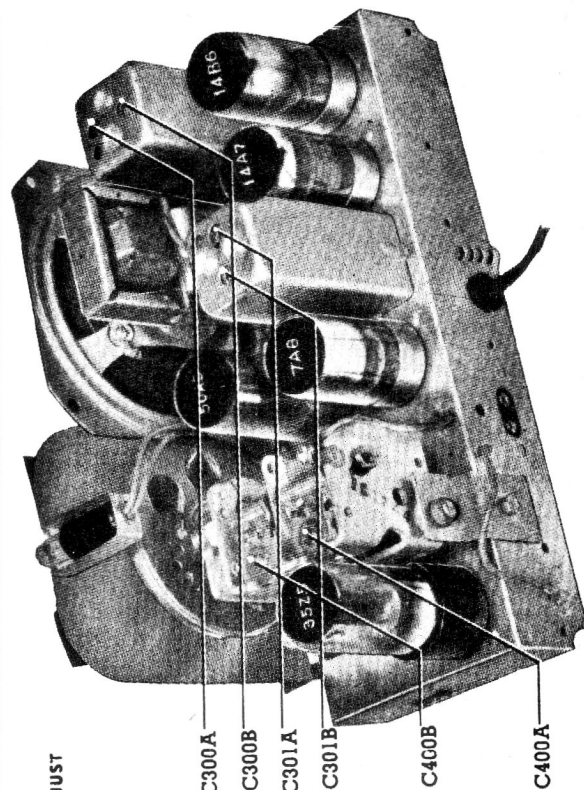

FIGURE 6. TOP VIEW, SHOWING TRIMMER LOCATIONS
1. Carefully inspect both top and bottom of chassis. Make sure that all tubes are secure in the proper sockets (see figure 6), and look for bad connections, burned resistors, or other obvious sources of trouble.
OUTPUT METER — Connect to left (output) lug and center (chassis) lug of terminal panel, shown in figure 6.
The high-impedance loop aerial normally provides adequate signal pick-up. An external aerial may be connected, if desired, by detaching the aerial lead (shown in figure 6) from the chassis, and connecting the lead to an external aerial lead-in. Do not use a ground.